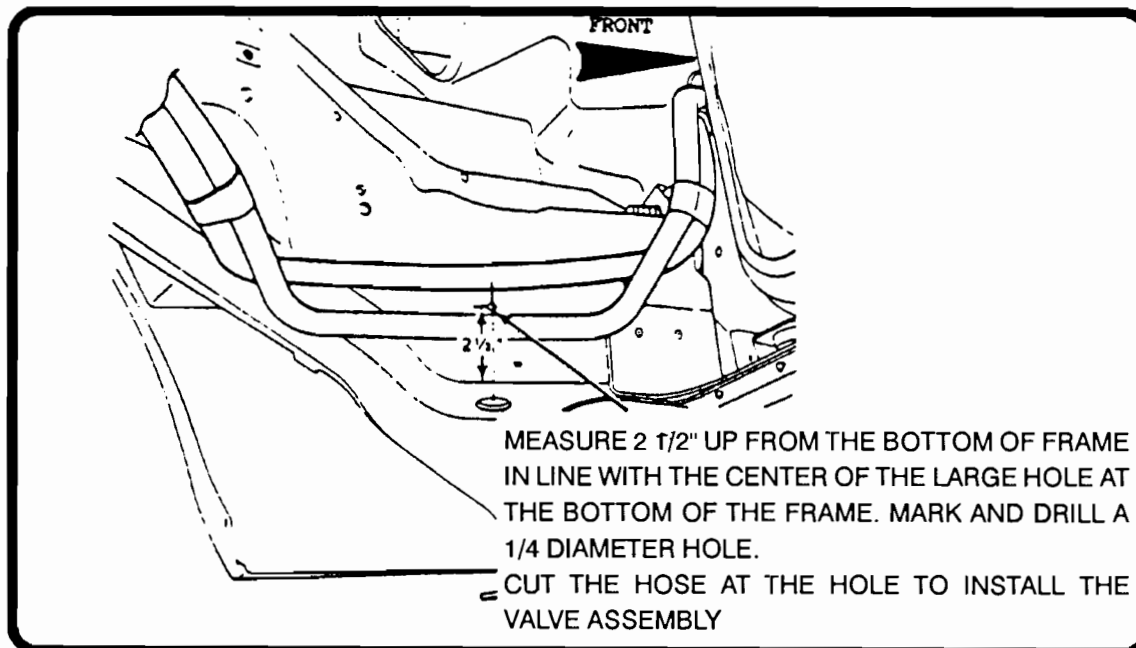

Figure 56
1. Measure up 2 1/2 inches from the bottom of the frame rail, as shown in Figure 56, and drill a 1/4 inch hole in the frame rail.
2. Pushing the cooler hoses against the frame, identify and cut the cooler "IN" (to cooler) hose at the drilled hole (Figure 56) and allow the fluid to drain. Cut only one hose at a time as not to get them mixed.
6. Now cut the other hose, cooler "out" (from cooler) at the drilled hole (Figure 56), allow oil to drain, and connect the hose ends to the bypass valve assembly connectors in the same manner as above.